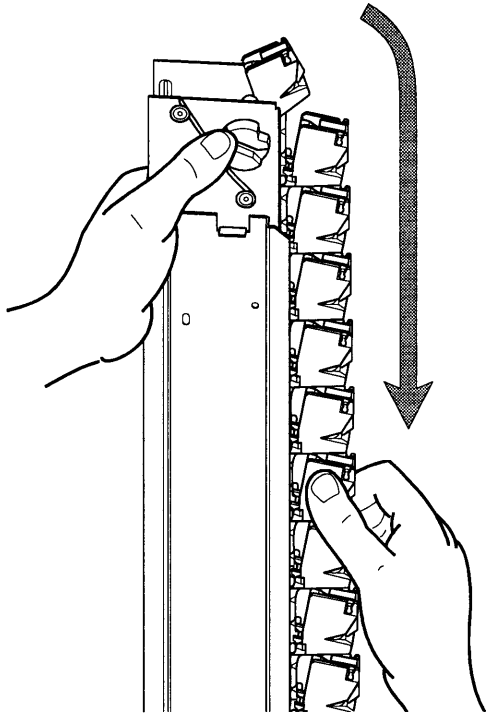

Figure 13
5. Hold the rack module and slide assembly as shown (figure 13). Carefully pull the chain in the direction shown